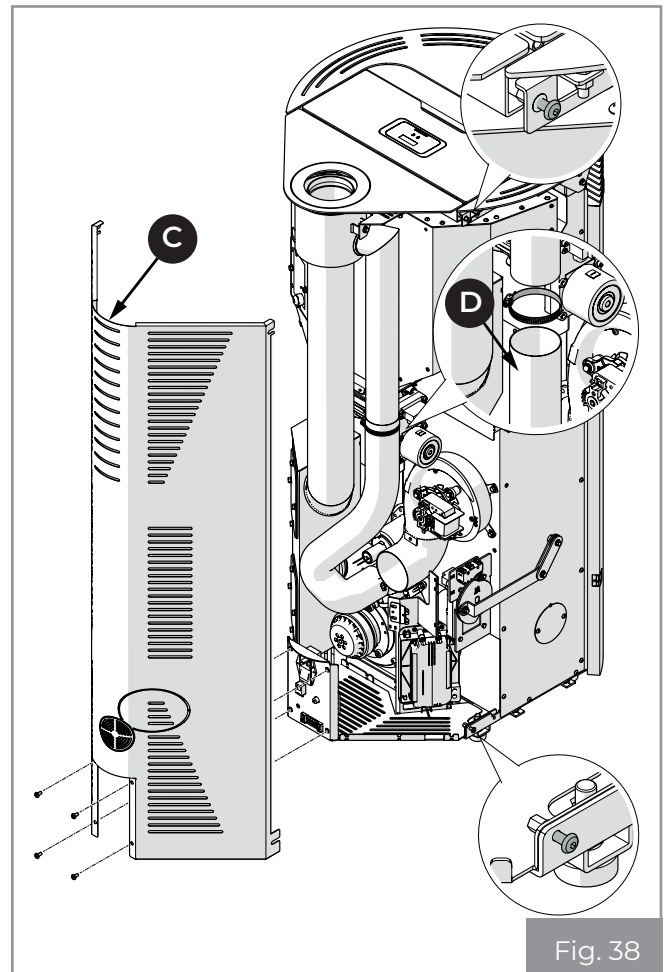

Fig. 38
- Remove the back panel of the stove **(C)** (**Fig. 38**).
- Disconnect the combustion air hose **(D)** in the upper part (**Fig. 38**).